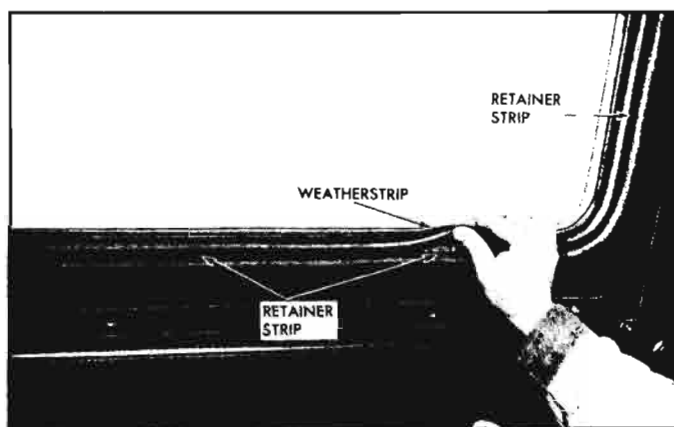

Fig. 10-91a—Removing Retainer Strips and Weatherstrip
1. Raise window weatherstrip edge and remove four retainer strips, two at the bottom and one at each side (fig. 10-91a).
6. Install two retainer strips under weatherstrip against the tabs (fig. 10-91a). A wood punch and